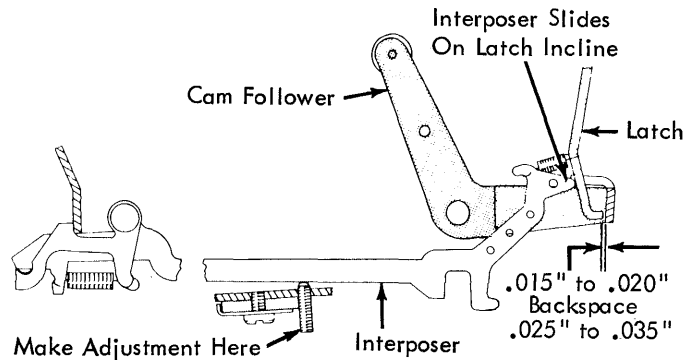

FIGURE 161. Interposer Adjusting Screw
4. Interposer Adjusting Screws - Adjust the interposer adjusting screws so that a front to rear clearance of .015" to .020" exists between all the operational latches and their respective cam followers, with the exception of the spacebar latch. The spacebar latch should have a clearance of .025" to .035" (Fig. 161).